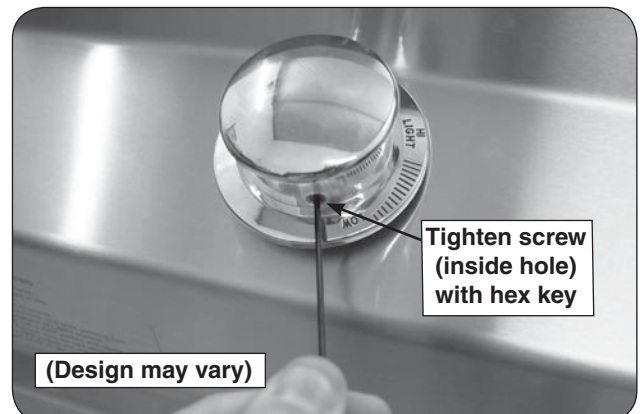

Fig. 23-4 Tighten screw to lock knobs
3. Insert the included .078" (2mm) hex key through the small hole located on the side of the knob and fully tighten the screw (see Fig. 23-4).